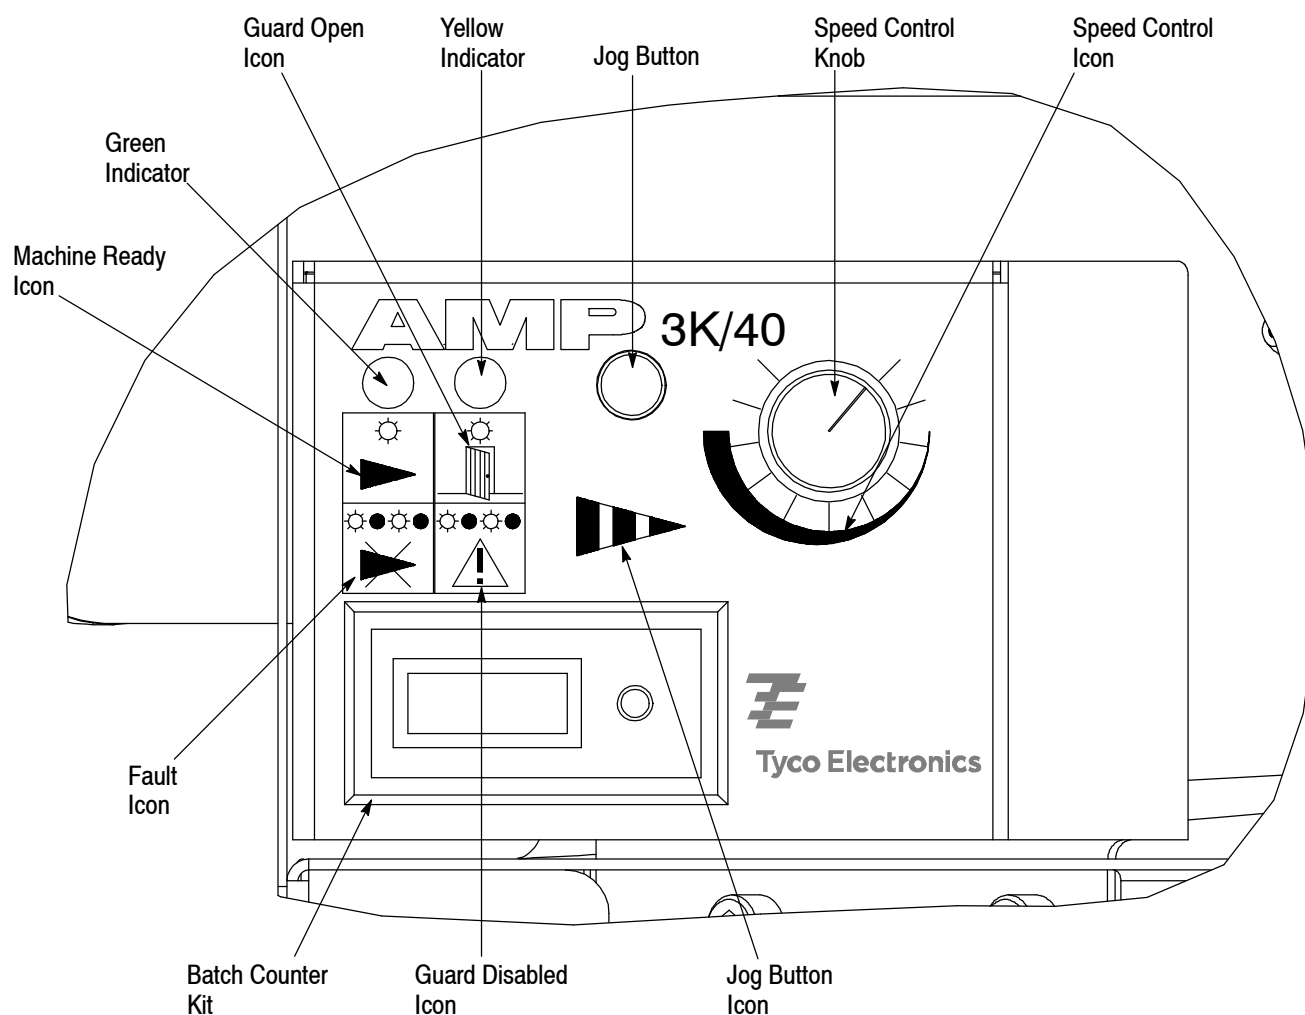

Figure 5
The operator control panel (Figure 5) is mounted on the left side of the machine frame. The control panel consists of two indicator lights, one jog button, and one speed control knob, with icons depicting each function. See Paragraph 4.1 for control panel operation.
1. Loosen the quick-release T-handle (see Figure 5) and slide the applicator base clamp down.